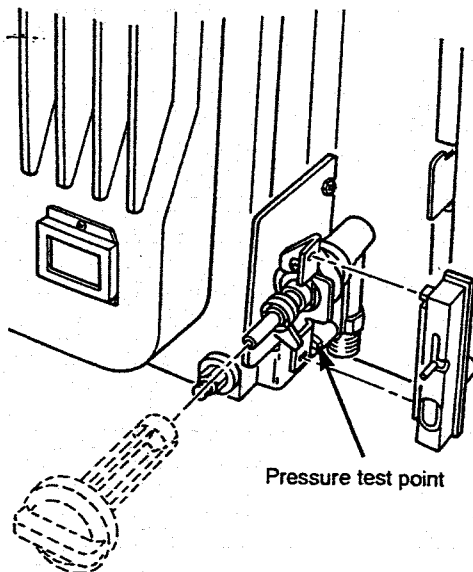

Fig. 4. Pressure test point.
3. Purge the air out of the system. Remove the pressure test point screw. Fit a pressure gauge to the pressure test point.(Fig 4).
5. Turn the knob fully round anti-clockwise to obtain HIGH (III) rate and check that the gas supply is correct by measuring the pressure at the test point on the gas control tap.(Fig 4). No adjustment is provided on the appliance. If it is found that the test pressure is not within the tolerances given, consult the local gas region.
12. Check the gas pressure at the test point on the gas control tap (Fig 4).